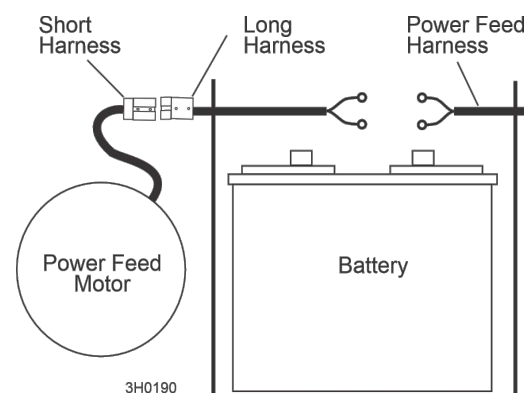

FIG. 1-4
9. Replace the motor cover and screws so that the harness is positioned at the top left of the motor. **See Fig. 1-4.**